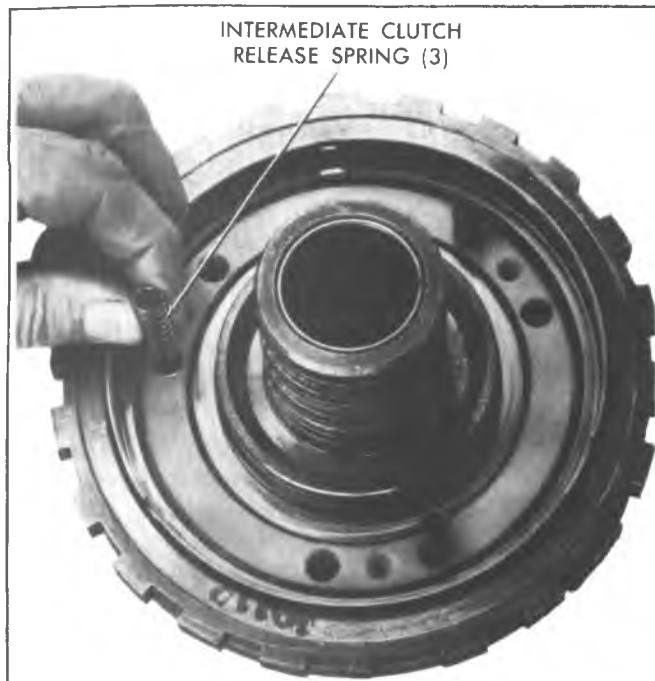

Fig. 7A-123C--Installing Intermediate Clutch Release Springs
4. Install three (3) release springs into holes of spring guide. Space equally during assembly (Fig. 7A-123C).